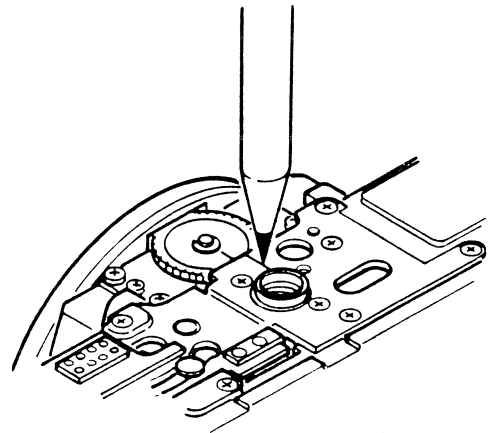

Fig.37
2. Draw two lines on the A printed board gear and M1100-14701 bottom base plate with a pencil as shown in Fig. 37.